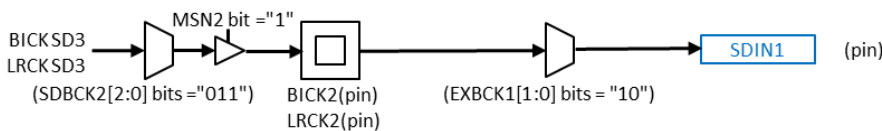

Figure 19. S Clock Sync Domain Setting Example2 of SDINx Pin
e.g.) Clock sync domain 3 is selected for the SDIN1 pin when EXBCK1[1:0] bits = "001", MSN2 bit = "1" and SDBCK2[2:0] bits = "011" (Figure 19).